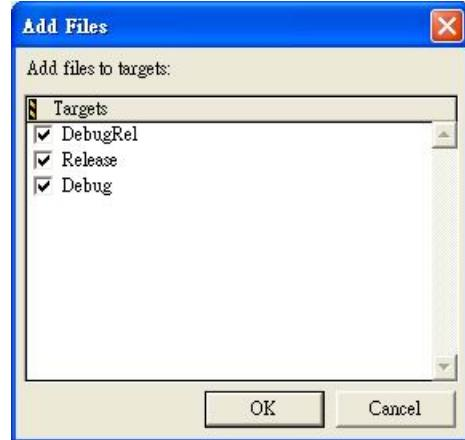

Figure 9. Add Files.
3. Click **Add**. The CodeWarrior IDE displays an **Add Files** dialog (Figure 9). The dialog contains a checkbox for each build target defined in the current project. In this example, the dialog contains three checkboxes corresponding to the three build targets defined in the ARM Executable Image project stationery.